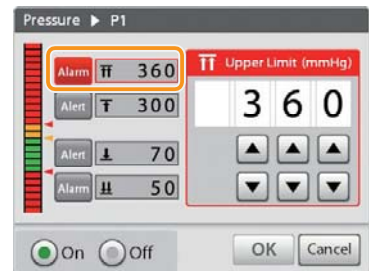

Figure 3-10
4. Confirm that [Alarm] of the upper limit is selected. (Figure 3-10)